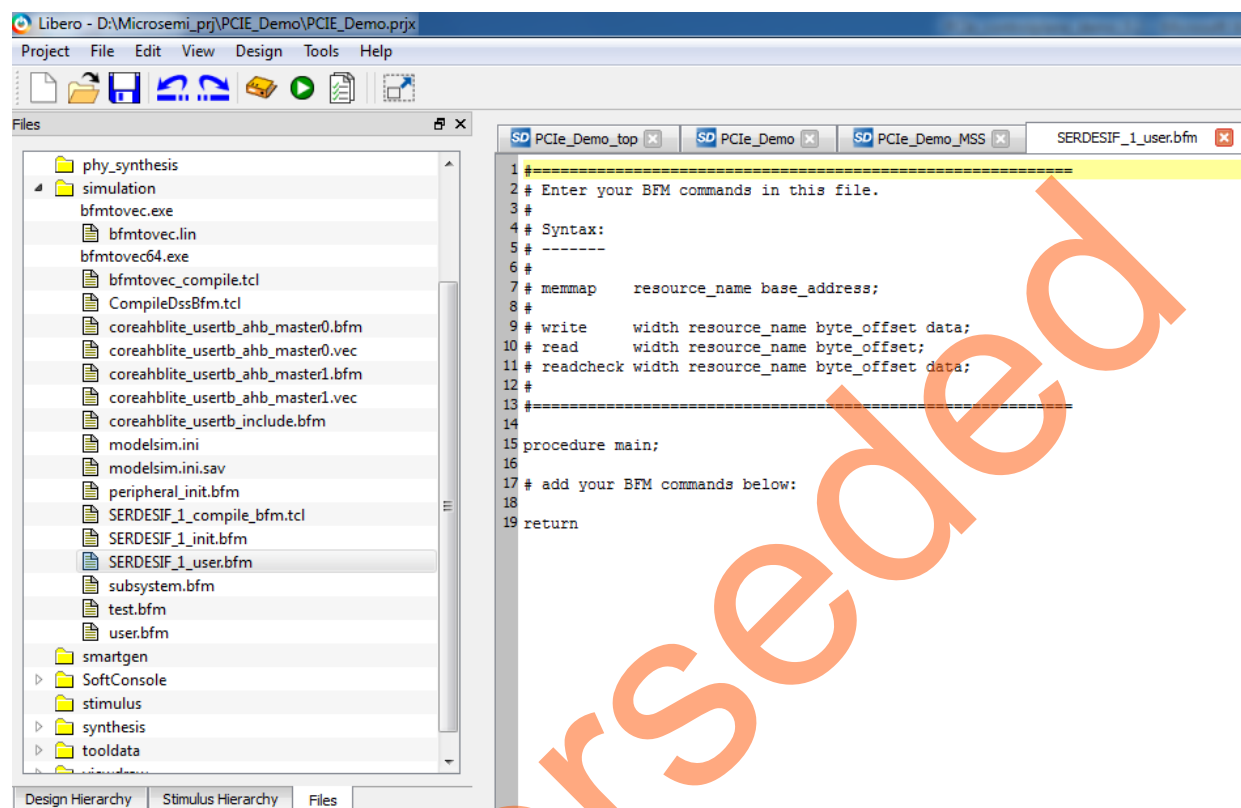

Figure 46 • SmartDesign Generated SERDESIF_1_user.bfm File
1. Open the SERDESIF_1_user.bfm file. To open the SERDESIF_1_user.bfm, go to the **Files** tab > **Simulation** folder, and double-click the SERDESIF_1_user.bfm. The SERDESIF_1_user.bfm file is displayed, as shown in Figure 46.